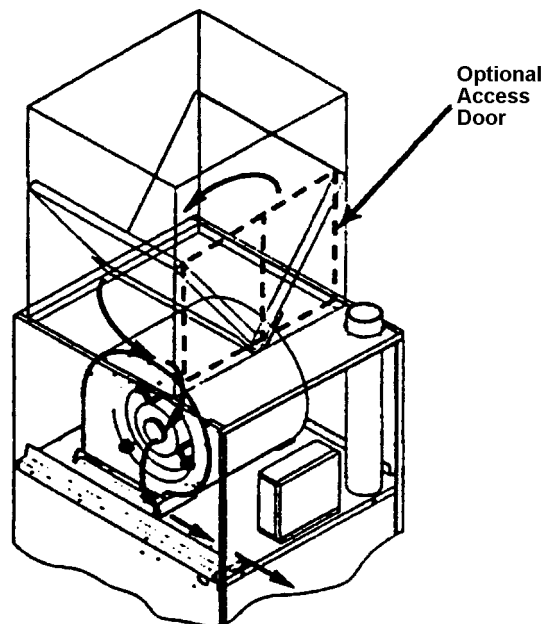

**Figure 14**
The furnace-mounted filter rack includes a rack mounted on the top of the furnace. Two filters fit into the rack and rest against the sides of the return air plenum, forming a "V" above the furnace. (Figure 14)
3. Remove the left filter first by reaching to the left side of the blower, pushing the filter up slightly to remove it from the filter rack. Then carefully pull the filter down past the left side of the blower housing. Be careful not to dislodge any trapped dirt or debris from the filter. (Figure 14)
4. Remove the right filter by reaching to the left side of the blower. Lift filter up slightly to remove it from the filter rack. Move the filter to the left side of the return air plenum, and down past the left side of the blower housing. Be careful not to dislodge any trapped dirt or debris from the filter. (Figure 14)
5. To reinstall the filters, first **MAKE CERTAIN THE AIRFLOW DIRECTION ARROW POINTS TOWARDS THE FURNACE**. Then insert the filters from the left side of the blower. Starting with the right filter, push the filter into the plenum so that the bottom of the filter rests in the filter rack and the upper edge rests against the side of the plenum. Repeat with the left filter. (Figure 14)